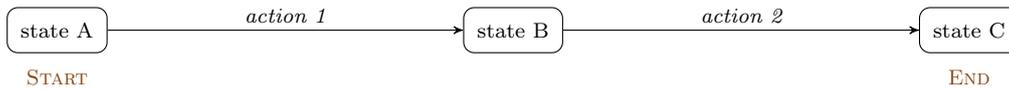

FIGURE 2 Generic Concise Process Diagram (CPD)
- Concise process diagrams — CPD_[T] (Figure 2)